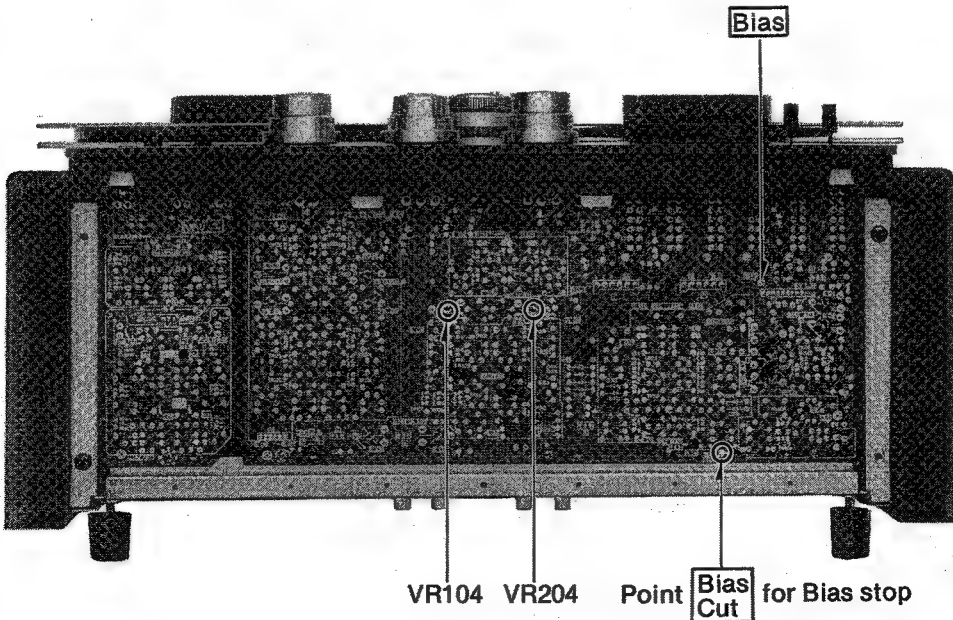

Fig. 50
Bias current	<ol style="list-style-type: none"> 1. Test equipment connections are shown in fig. 49. 2. Set the bias selector to "2" position. 3. Set the tape speed to 38 cm/s. 4. Set the unit to the recording mode. 5. Set the recording mode selectors: L-CH to ON and R-CH to OFF. 6. Measure voltage across R512 (1Ω) (at point Bias) shown in fig. 50. 7. Next set the record mode selectors: R-CH to ON and L-CH to OFF. 8. Measure voltage at point Bias. 9. Bias current is calculated by formula below. $\text{Bias Current} = \frac{\text{Voltage read on VTVM}}{1\Omega} \text{ (V)}$ <div style="border: 1px solid black; padding: 5px; margin: 10px 0;"> <p>Standard value at 38 cm/s tape speed and at "2" position of Bias Selector: around 3 mV</p> </div> <ol style="list-style-type: none"> 10. Next set bias selector to "1" position, and measure the bias current in the same way as described in steps 3 to 9 above. 11. Confirm that the bias current is 10% less than at the "2" position of the bias selector. 12. Next set bias selector to "2" position and confirm that bias current is 10% greater than at the "2" position of the bias selector. <p>In the same way, measure bias current at 9.5 cm/s tape speed. (Standard value at "2" position of bias selector is around 2.6 mV.)</p>
Recording current	<ol style="list-style-type: none"> 1. Test equipment connections are shown in fig. 49. 2. Stop the bias oscillation by unsoldering the connection point Bias Cut for bias current ON/OFF shown in figure 50. 3. Thread blank test tape QZZORA218EX. 4. Set the tape selector to "38" position. 5. Set the equalizer selector to "2" position. 6. Supply 1 kHz signal (–24 dB ± 3 dB) from AF oscillator, through ATT, to LINE-IN jacks, and adjust ATT until source monitor level at LINE-OUT jacks on VTVM becomes 0.55 V. 7. Set the recording mode selectors to "ON" (L-CH) and "OFF" (R-CH). 8. Place unit into recording modes.
Overall gain	<div><div><div>1. Test equipment connections are shown in fig. 36.</div><div>2. Thread blank test tape QZZORA218EX.</div><div>3. Supply 400Hz signal ($-24 \pm 3\text{dB}$) from AF oscillator, through ATT, to LINE-IN jacks.</div><div>4. Adjust ATT so that the output level at LINE-OUT jacks on VTVM becomes 0.55V.</div><div>5. Place unit into recording mode.</div><div>6. Set the monitor selector to "Tape" position (both channels).</div><div>7. Then, measure the output level at LINE-OUT jacks when VTVM indicates 0.55V.</div></div><div><div>[Adjustment]</div><div>1. If the measured value is not satisfied, adjust the overall gain adjustment VR, VR104 (L-CH) and VR204 (R-CH) shown in figure 50.</div></div></div>